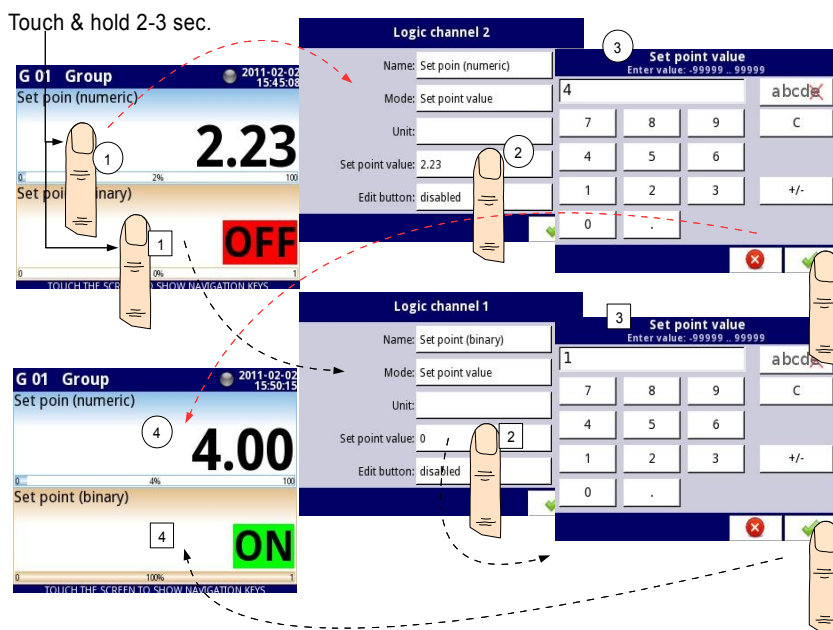

Fig. 7.44. Configuration of the value for Logical channel in **Set point value** for the disabled button
- **disabled** - the button is disabled on the display, in this case the data source of logical channel will be the value set in the **Set poin value** parameter, see Fig. 7.44,